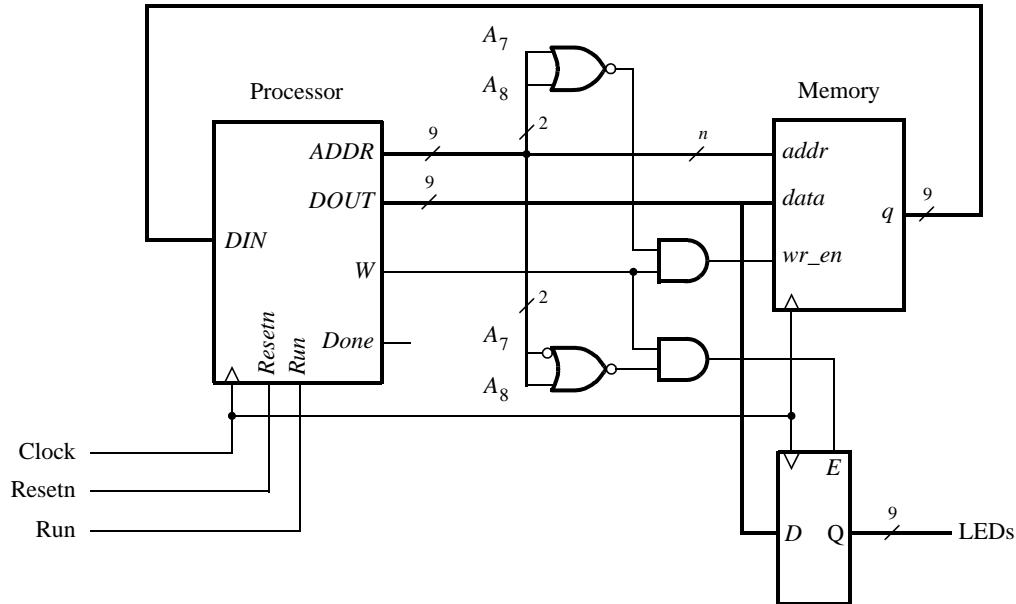

Figure 12: Connecting the enhanced processor to a memory and output register.
Figure 12 illustrates how the enhanced processor is connected to memory and other devices. The memory unit in the figure supports both read and write operations and therefore has both address and data inputs, as well as a write enable input. The memory also has a clock input, because the address, data, and write enable inputs must be loaded into the memory on an active clock edge. This type of memory unit is usually called a *synchronous static random access memory* (*synchronous SRAM*). Figure 12 also includes a 9-bit register that can be used to store data
from the processor; this register might be connected to a set of LEDs to allow display of data on your DE-series board. To allow the processor to select either the memory unit or register when performing a write operation, the circuit includes some logic gates that perform *address decoding*: if the upper address lines are $A_8A_7 = 00$, then the memory module will be written at the address given on the lower address lines. Figure 12 shows n lower address lines connected to the memory; for this exercise a memory with 128 words is probably sufficient, which implies that $n = 7$ and the memory address port is driven by $A_6 \dots A_0$. For addresses in which $A_8A_7 = 01$, the data written by the processor is loaded into the register whose outputs are called *LEDs* in Figure 12.
2. Write Verilog code for the processor and test your circuit by using functional simulation: apply instructions to the *DIN* port and observe the internal processor signals as the instructions are executed. Pay careful attention to the timing of signals between your processor and external memory; account for the fact that the memory has registered input ports, as we discussed for Figure 12.
3. Create another Quartus project that instantiates the processor, memory module, and register shown in Figure 12. Use the Quartus IP Catalog to create the RAM: 1-PORT memory module. Follow the instructions provided by the wizard to create a memory that has one 9-bit wide read/write data port and is 128 words deep. Ensure that the output is not registered. Use a MIF file to store instructions in the memory that are to be executed by your processor. An example program in the form of a MIF file is shown in Figure 13. This program display an 8-bit counter value on the LEDs output port. Loops are used in the program to create delays so that the counter values are not changed too quickly to be observed. Comments are included in the MIF file in Figure 13 to describe the program's code.
Connect the *LEDs* register in Figure 12 to *LEDR₈₋₀* so that you can observe the output produced by the processor.
1. Create a Quartus project for your circuit and write the Verilog code that includes the circuit from Figure 12 in addition to your *seg7_scroll* module.